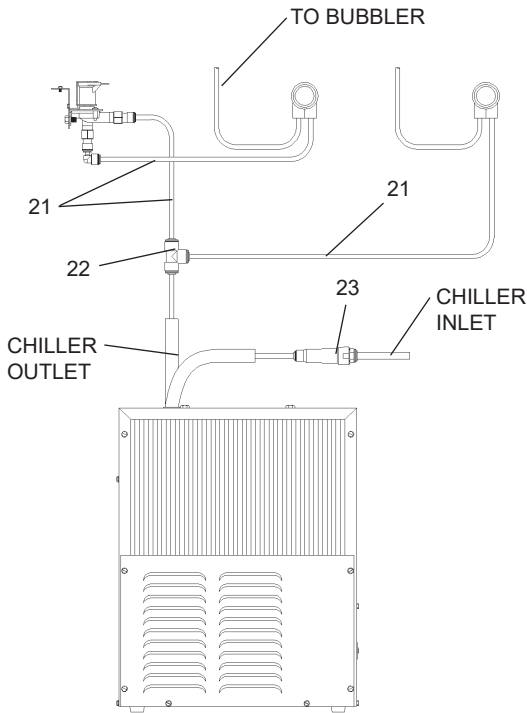
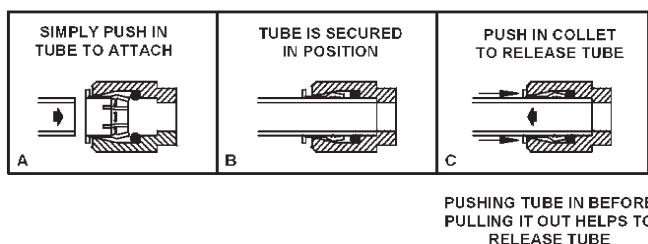

Figure 3 - ENO Tube Routing
Figure 13 – Quick Connect Fittings
3. **Make water supply connections.** Inlet port is marked on the chiller (1/4" O.D. copper tube). Bend the copper tube (provided) at an appropriate length from the chiller to opening in frame. Install the in-line strainer (provided with chiller) by pushing it in until it reaches a positive stop, approximately 3/4" (19mm) on the marked chiller inlet port (See Figs. 3) (Refer to Fig. 13 on page 7 for details on assembling quick connect fittings). Attach an unplated and deburred copper water inlet line and a service stop (not provided) to the chiller. Turn on the water supply and flush the line thoroughly.
4. **Make connection between remote chiller outlet tube and solenoid valve assembly.** Outlet port is marked on the chiller (1/4" O.D. copper tube). Install a 1/4" tee (provided) on the marked chiller outlet port. Insert one end of 1/4" poly tubing into the tee and the other end into the straight fitting on the solenoid valve assy. (See Fig. 3)
9. **Make connection between solenoid valve assembly and fountain(s).** Insert the 1/4" poly tubing coming from the fountain with sensor into the solenoid valve. Insert the 1/4" poly tubing coming from the fountain with push button into the tee (See Fig. 3).
Actuation of Quick Connect Water Fittings: Cooler is provided with lead-free connectors which utilize an o-ring water seal. To remove tubing from the fitting, relieve water pressure, push in on the gray collar while pulling on the tubing. (See Figure 13) To insert tubing, push tube straight into fitting until it reaches a positive stop (approximately 3/4").